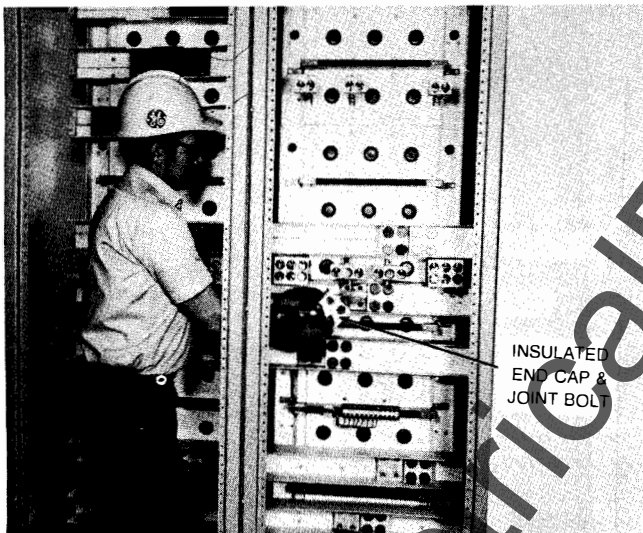

FIGURE 15.
2. Remove joint hardware, end caps (if future extension) and joint insulating caps. (Fig. 15)